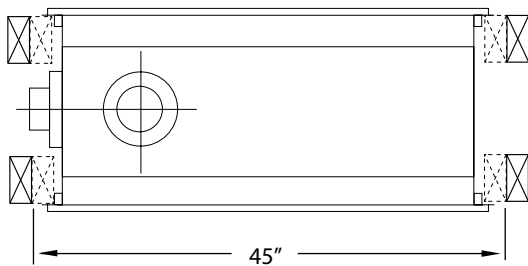

Figure 3. Securing the fireplace to the framing cleats.
- Tack four studs (Vertical, "broken line") in place, shown in Fig 3.